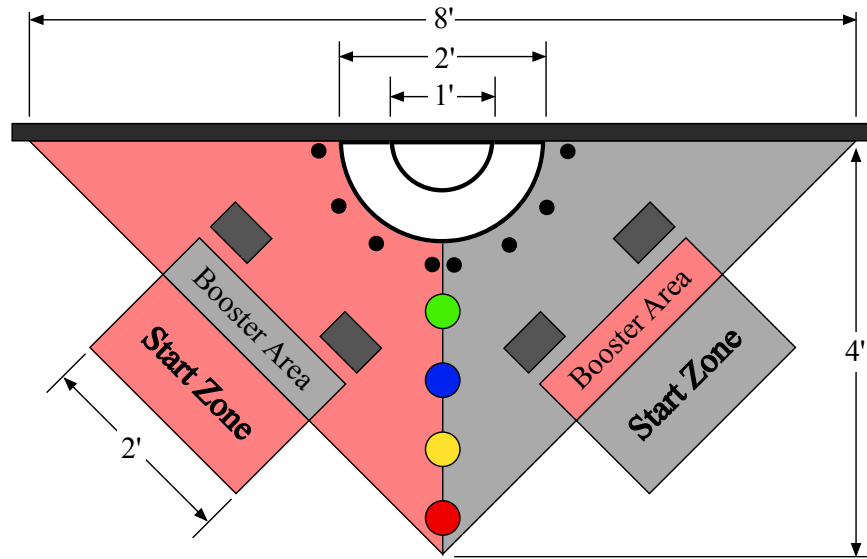
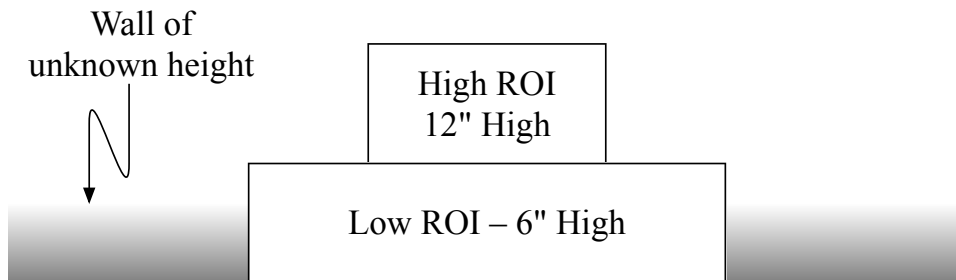

Figure 2: Approximate Campus Dimensions
Figure 3: The Fundraising Account Dimensions
The approximate dimensions of the campus are shown in Figure 2. The fundraising account dimensions are further detailed in Figure 3. Note that these dimensions are approximate and that your device should be robust to uncertainties in them. Any significant deviation from the dimensions in Figure 2 during its final construction will be reported.
- 11/5/13 – Corrected start-zone size error in rule 5. The measurements in Figure 2 were correct.